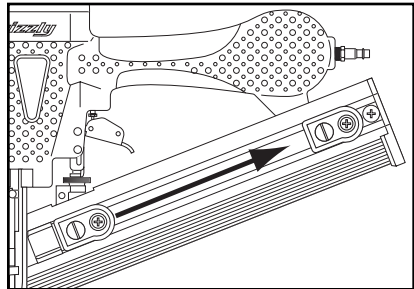

Figure 2. Releasing magazine pusher.
2. Slide back the magazine pusher until it stops as shown in **Figure 2**.